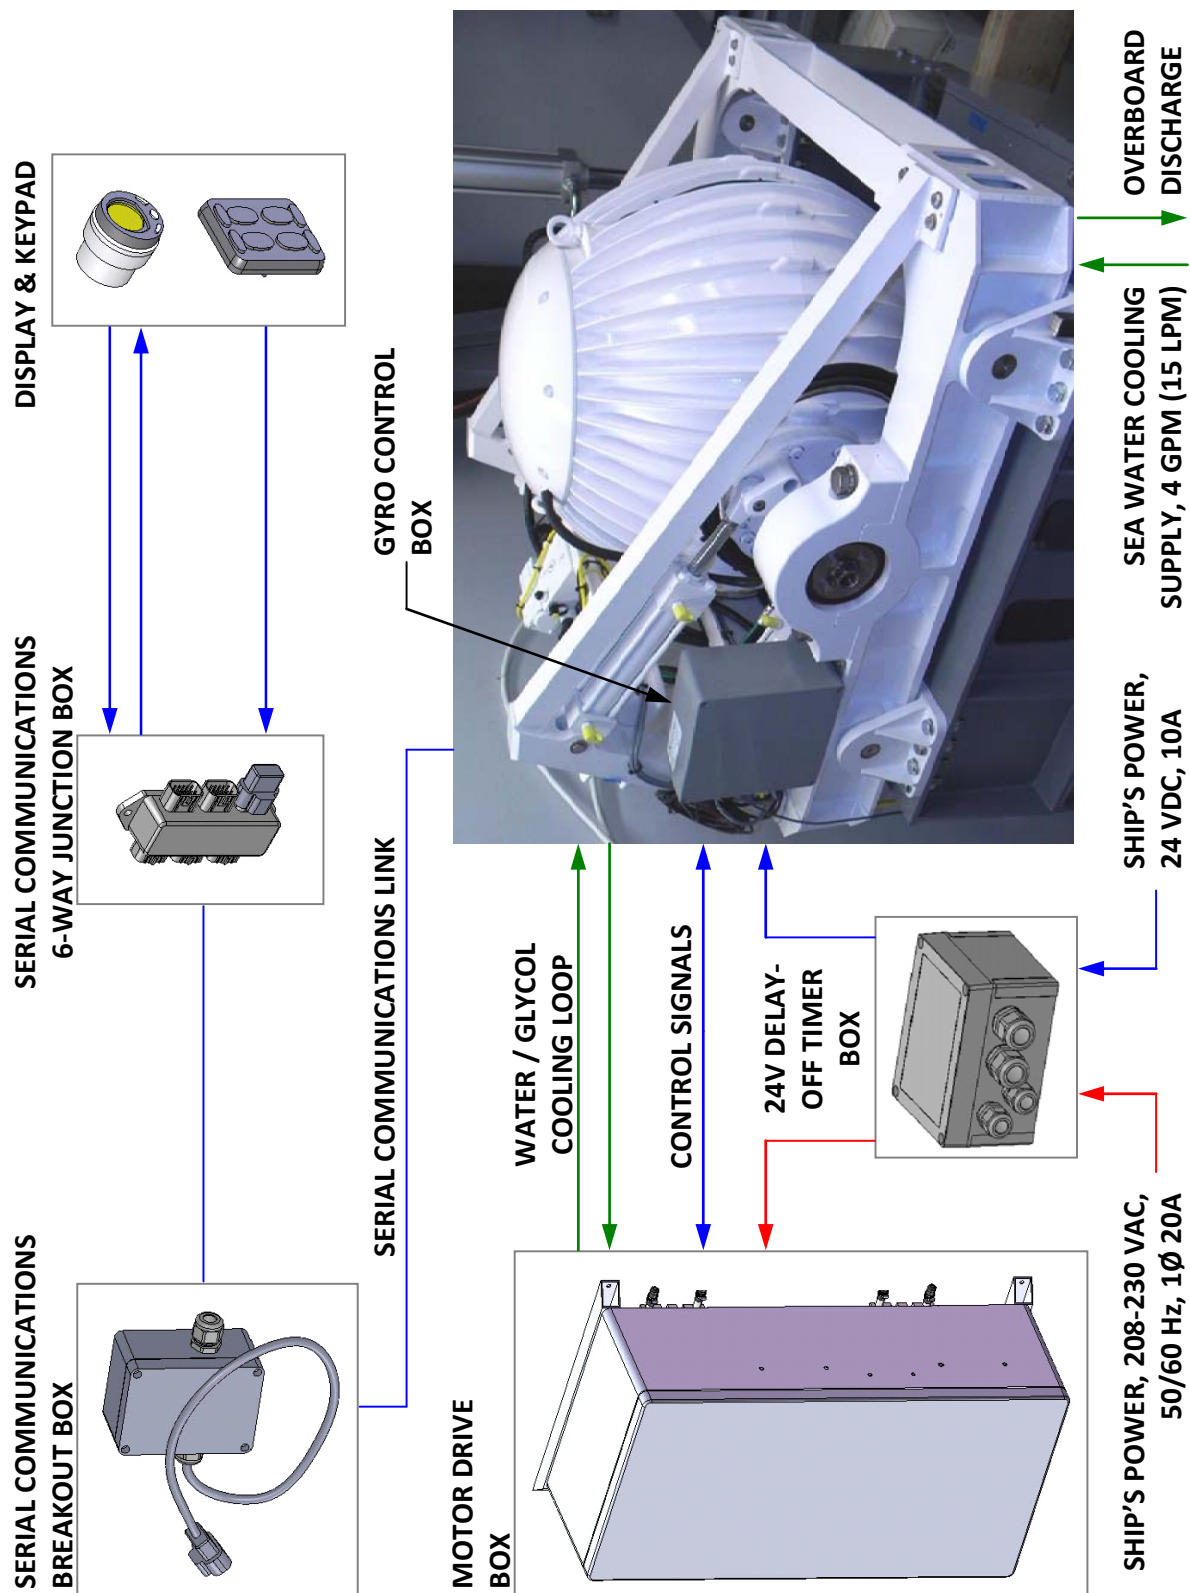

FIGURE 1 – MODEL 21000 GYRO STABILIZATION SYSTEM COMPONENTS
A Model 21000 Gyro consists of a Gyro assembly (including Control Box), Motor Drive Box, 24V Delay-Off Timer Box, Serial Communications Boxes (2), and Operator Display and Keypad. Figure 1 illustrates the interconnection of these components and their interface with the boat.